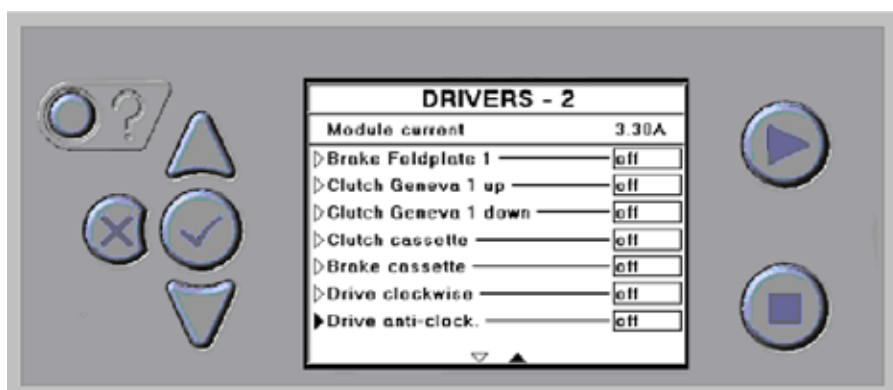

Fig. 24
c) Engineering Drives (Fig. 24)